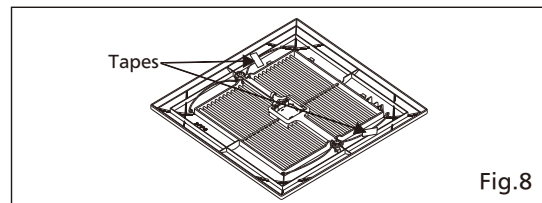

Fig.8
10. Remove the tapes from louver and springs before installation. (Fig.8)